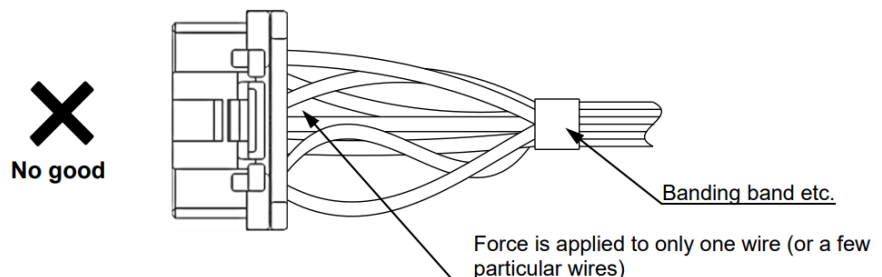

Fig. 5-4 Harness is bundled improperly
- 2) As for the harness, please do not apply force to only one wire (or a few particular wires) (Fig.5-4)